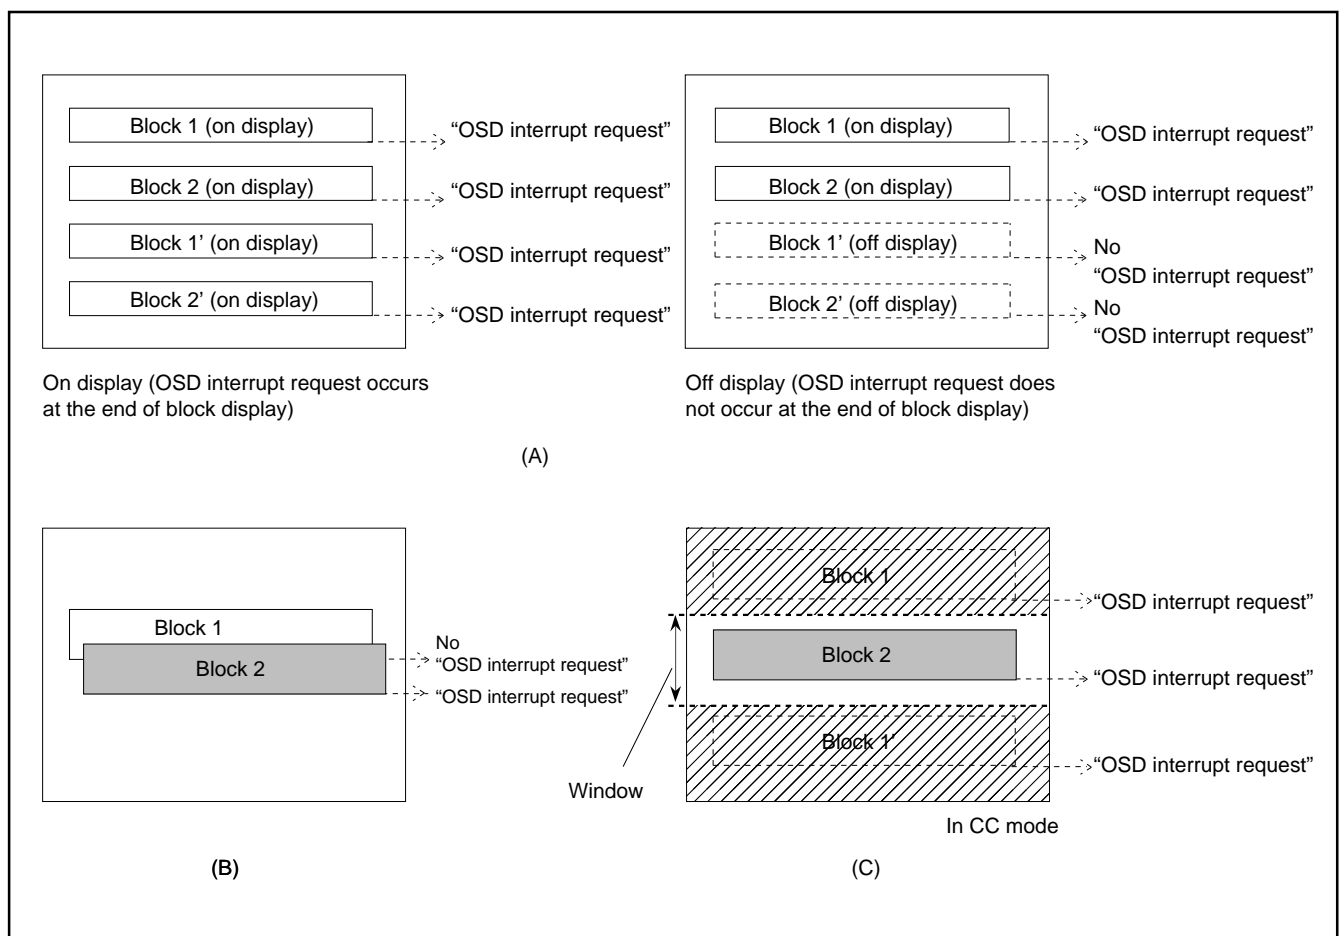

Fig. 67. Note on Occurrence of OSD Interrupt
Notes 1: An OSD interrupt does not occur at the end of display when the block is not displayed. In other words, if a block is set to off display by the display control bit of the block control register (addresses 00D216, 00D316), an OSD interrupt request does not occur (refer to Figure 67 (A)).
2: When another block display appears while one block is displayed, an OSD interrupt request occurs only once at the end of the another block display (refer to Figure 67 (B)).
3: On the screen setting window, an OSD interrupt occurs even at the end of the CC mode block (off display) out of window (refer to Figure 67 (C)).